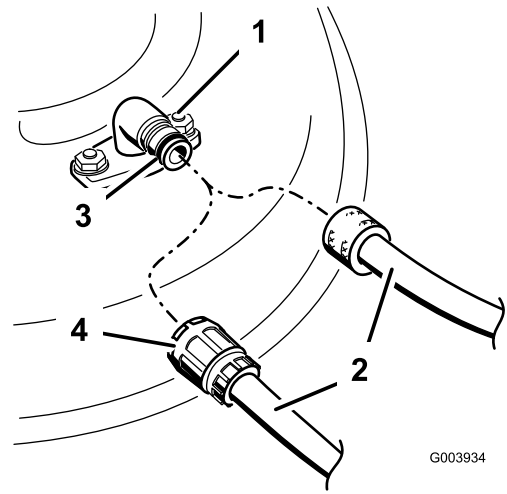

Figure 69
3. Attach the hose coupling to the end of the mower washout fitting, and turn the water on high (Figure 69).